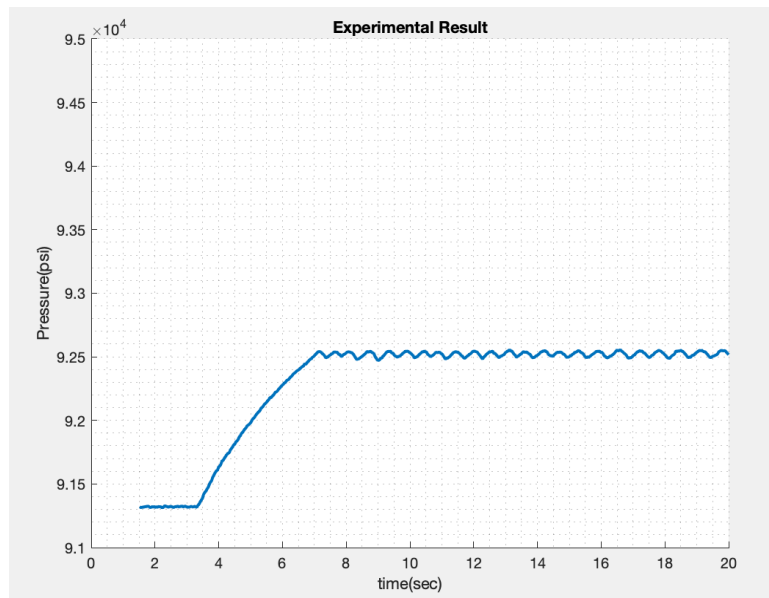

Figure 9: P controller response
31. You should be able to see a MATLAB plot like in the Figure 9. Save the plot.